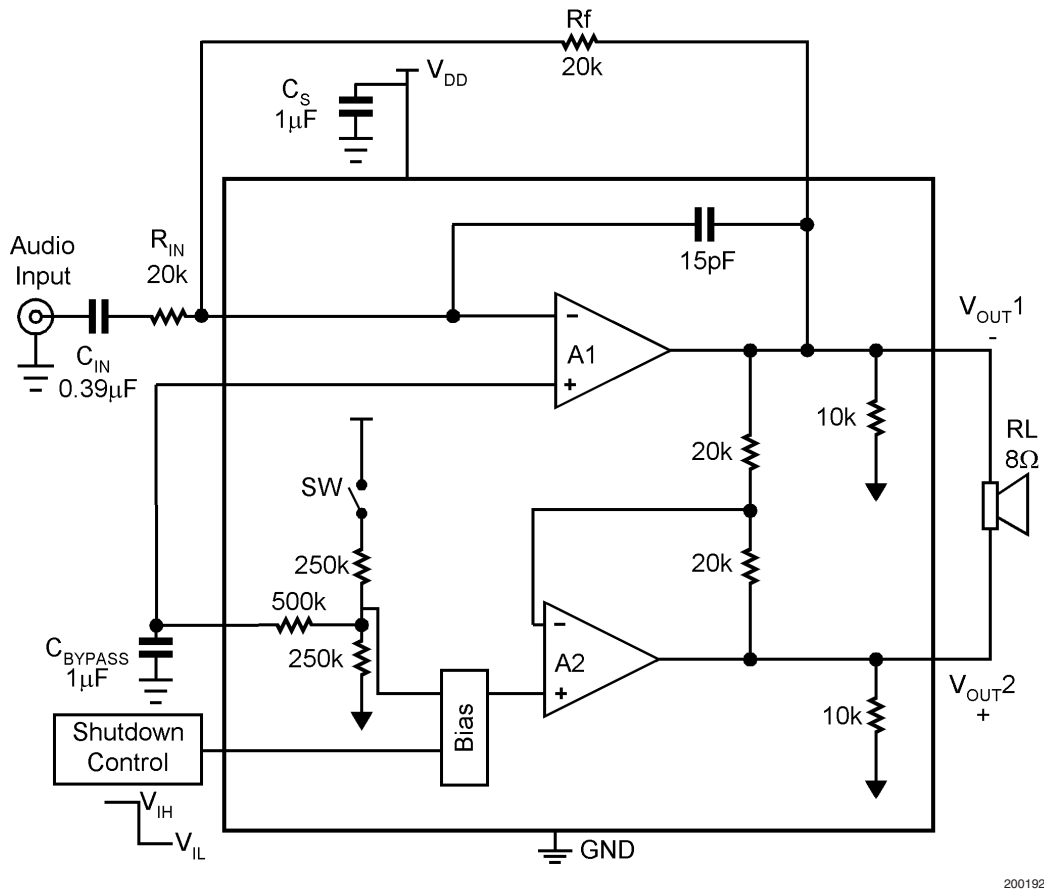

FIGURE 1. Typical Audio Amplifier Application Circuit
■ PSRR at 217Hz, V _{DD} = 5V (Fig. 1)	62dB(typ.)
The following specifications apply for the circuit shown in Figure 1 unless otherwise specified. Limits apply for $T_A = 25^\circ\text{C}$.
The following specifications apply for the circuit shown in Figure 1 unless otherwise specified. Limits apply for $T_A = 25^\circ\text{C}$. (Continued)
Note 14: PSRR is a function of system gain. Specifications apply to the circuit in Figure 1 where $A_V = 2$. Higher system gains will reduce PSRR value by the amount of gain increase. A system gain of 10 represents a gain increase of 14dB. PSRR will be reduced by 14dB and applies to all operating voltages.
External Components Description *(Figure 1)*